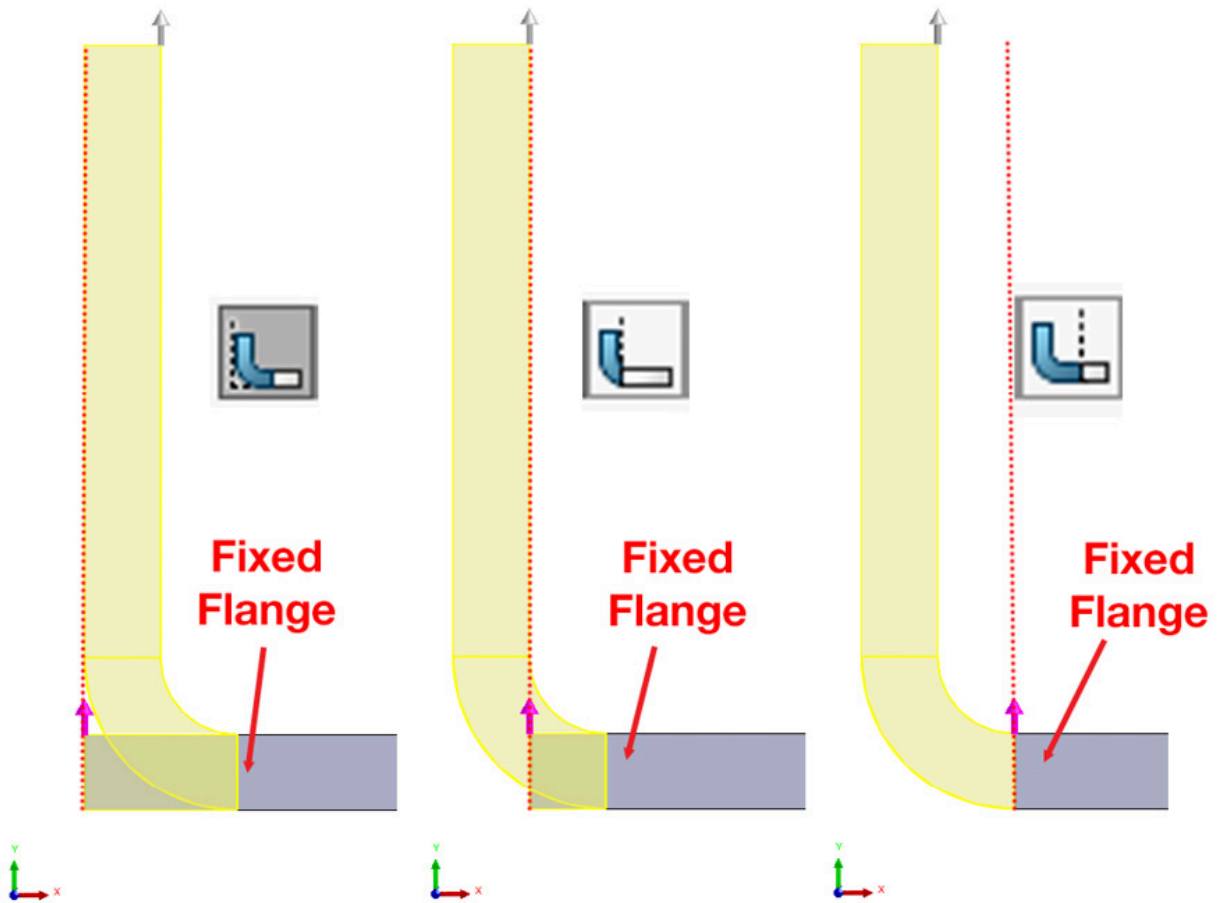

Figure 2.10: The Flange Position options (left to right: Material Inside, Material Outside, and Bend Outside)
- **Material Inside:** This option means that all of the Edge Flange material will be inside the area of the fixed flange (Figure 2.10).
- **Material Outside:** This option puts the Edge Flange material outside of the fixed flange area, however, it can be seen that some of the bend region itself is still within the fixed flange area (Figure 2.10).
- **Bend Outside:** This choice means that the entire bend will be outside of the fixed flange, effectively offsetting the Edge Flange from the fixed flange slightly (*Figure 2.10*).